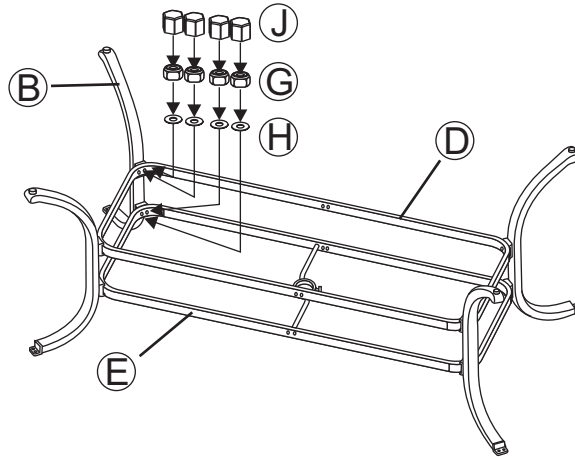

Figure 1
- 1 Attach a table leg to the leg connector bracket-1 & -2 by carefully guiding the bolts already in place on the table legs (each leg has four bolts) through the holes in the leg connector brackets. Add a washer and a nut to the end of each bolt as shown in the **Figure 1**. **Hand tighten 2-3 turns only**. Repeat on the other three legs.
- 2 Attach a middle leg to the leg connector bracket-1 & -2 by carefully guiding the bolts already in place on the middle legs (each leg has four bolts) through the holes in the leg connector brackets. Add a washer and a nut to the end of each bolt as shown in the **Figure 1**. **Hand tighten 2-3 turns only**. Repeat on the other three legs.
1 **Important: We recommend 2 people work together to assemble the chair.** Note the arrow labels on the "U" bar and the rocker assembly. Also note the horseshoe shape of the rocker plate. Point the open end of the horseshoe away from you. The arrows on the rocker assembly should be pointing towards you. Set the chair frame on the rocker assembly with front of the seat facing you and the arrows on the "U" bar pointing towards you as shown in *Figure 1*. This is very important for a safe, balanced rocking motion. **If chair frame has been properly positioned on the rocker assembly, all arrows on the "U" bar and rocker assembly will be pointing in the same direction.**